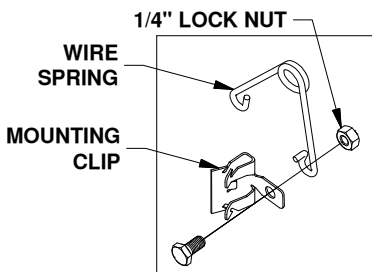
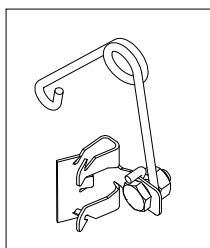

Figure D1:
Figure D2:
1. Locate the 1/4" cap screw and nut, along with the wire tension spring and mounting clip. Pass the 1/4" cap screw through the mounting clip and the wire spring, as shown in Figure D1. Thread the 1/4" lock nut onto the 1/4" cap screw. Tighten the lock nut just enough that the spring will stay in place but will still be able to rotate around the bolt if needed, see Figure D2.